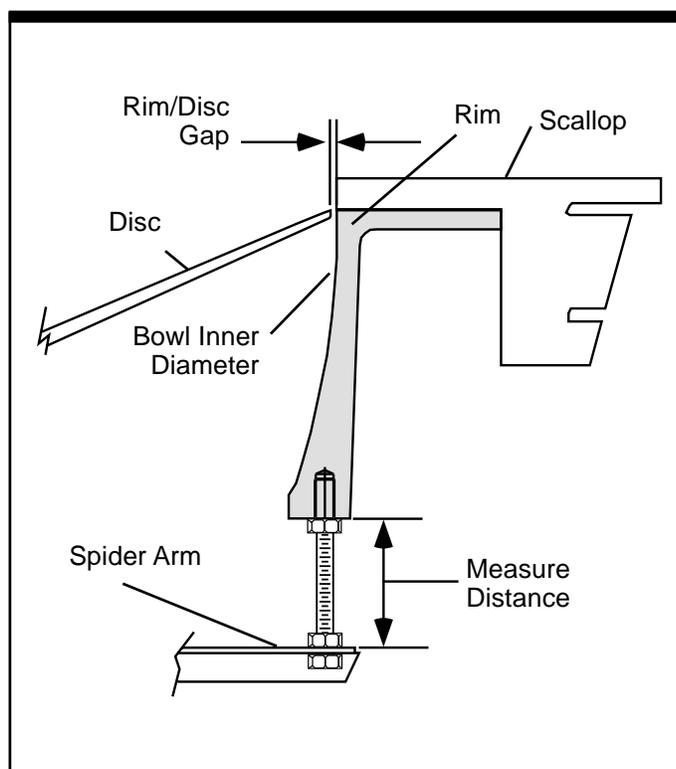

Figure 5-1. Side View - Bowl Mounting
Step 1—Measuring and Removing the Bowl. Measure the height between the bottom of the bowl, and the top of the spider arm (where the threaded rod connects the two parts - see Figure 5-1). Loosen and remove the bottom nut on the spider arm (on each of the eight (8) arms) and remove the bowl - pulling it up and away from the feeder.